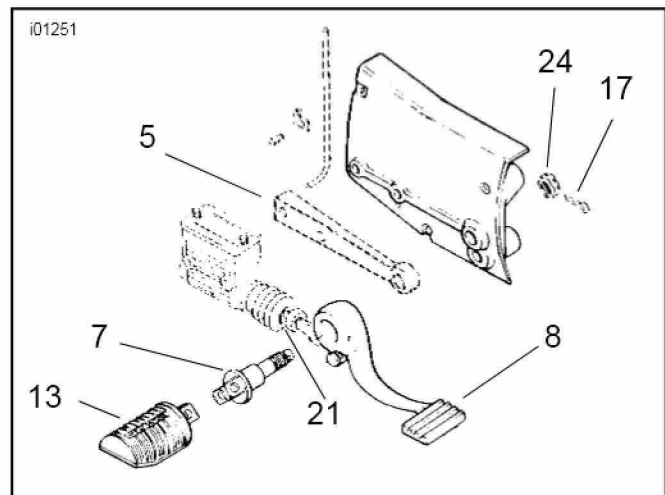

Figure 2. Brake Side Footrest Mounting
5. See Figure 2. Remove the cotter pin (17) and locknut (24) that holds the footrest mount in place. Replace the footrest mount with sockethead capscrew (12) from kit and install the locknut (24).